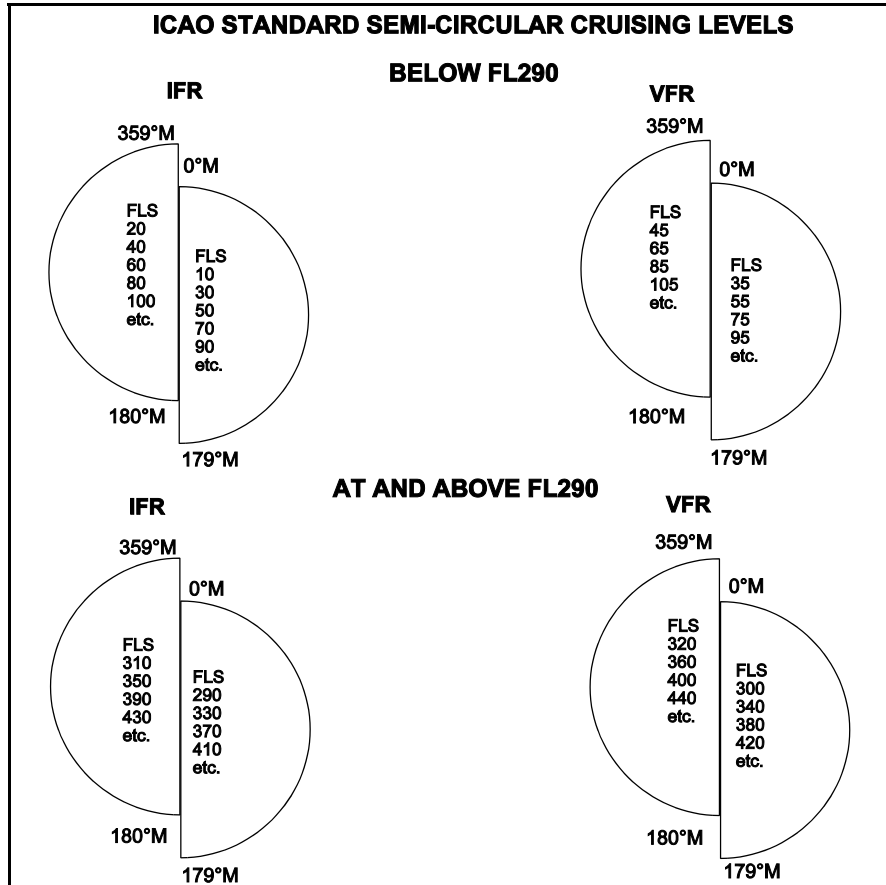

Figure 2.1. ICAO Semi-Circular Cruising levels
- The ICAO Standard Semi-Circular Cruising Levels. (See Figure 2.1)
(See Figure 2.1 and bottom of the chart)
The choice of safe Flight Level is determined by the aircraft’s planned **Magnetic track** (not heading), stated obstacle clearance allowance and regional forecast route QNH. For VFR flight for SEP and MEP aircraft the **BELOW FL290 VFR** diagram, top right of figure 2.1, is the reference. Flight Levels for a track between 0°M and 179°M are **odd levels plus 500ft**; for tracks between 180°M and 359°M they are **even levels plus 500ft**.